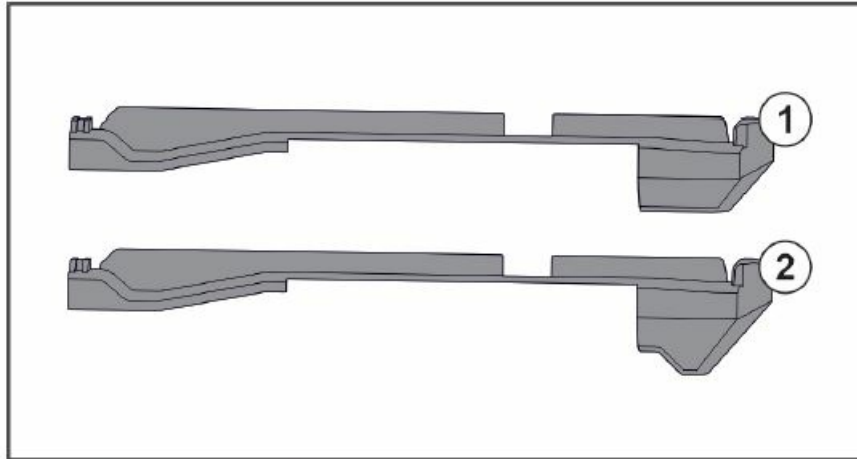

Fig. 29 Comparing attachments
There are two different attachments in the appliance. The attachment above the lowest drawer Fig. 29 (2) has a three-cornered edge. All other attachments Fig. 29 (1) have a straight edge.
- Fit attachment Fig. 29 (2) with the three-cornered edge above the lowest drawer.
- Fit attachment Fig. 29 (1) with straight edge in all other positions.